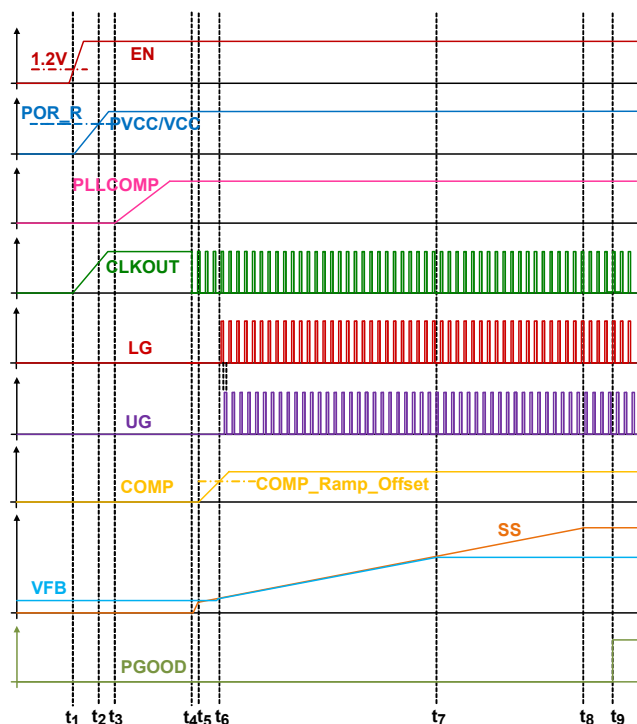

FIGURE 58. CIRCUIT INITIALIZATION AND SOFT-START
- There is no limit for the minimum voltage on the TRACK pin, but note the lower reference voltage and the lower voltage feedback regulation accuracy. Note the SS_DONE signal is checking $V_{REF_TRK} \geq 0.3V$ as one of the conditions (refer to Figure 58 on page 29 and t_g - t_d description on page 30). Also, for the boost converter, the regulated output minimum voltage is usually the input voltage minus the upper MOSFET's body diode drop, in which case, the corresponding voltage at FB voltage is the minimum effective voltage for the V_{REF_TRK} .
Prior to converter initialization, the EN pin voltage needs to be higher than its rising threshold and the PVCC/VCC pin needs to be higher than the rising POR threshold. When these conditions are met, the controller begins initialization and soft-start. Figure 58 shows the ISL78227 internal start-up timing diagram from the power-up to soft-start.
Assuming input voltage is applied to the VIN pin before t_1 and VCC is connected to PVCC, as shown on Figure 58, the descriptions for start-up procedure is elaborated in the following:
Diode emulation occurs during t_5 - t_8 (on Figure 58 on page 29), regardless of the DE/PHDRP operating modes (Table 2).
As shown in Figure 3 on page 7, the ISL78227 monitors the VIN pin voltage divided by 48 (VIN/48) as the input voltage information. This fault detection is active at the beginning of soft-start (t₅ as shown in Figure 58 on page 29).
The ISL78227 monitors the FB pin voltage to detect if output overvoltage fault (VOUT_OV) occurs. This fault detection is active at the beginning of soft-start (t₅ as shown in the Figure 58 on page 29).